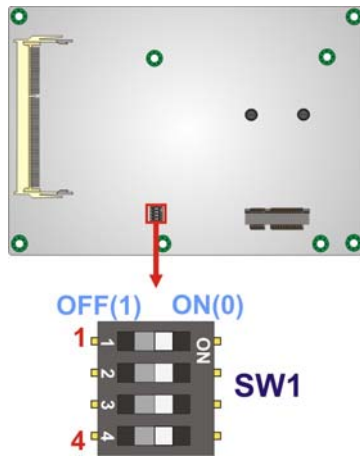

Figure 4-6: LVDS2 Resolution Selection Jumper Location
- Jumper Location:** See Figure 4-6